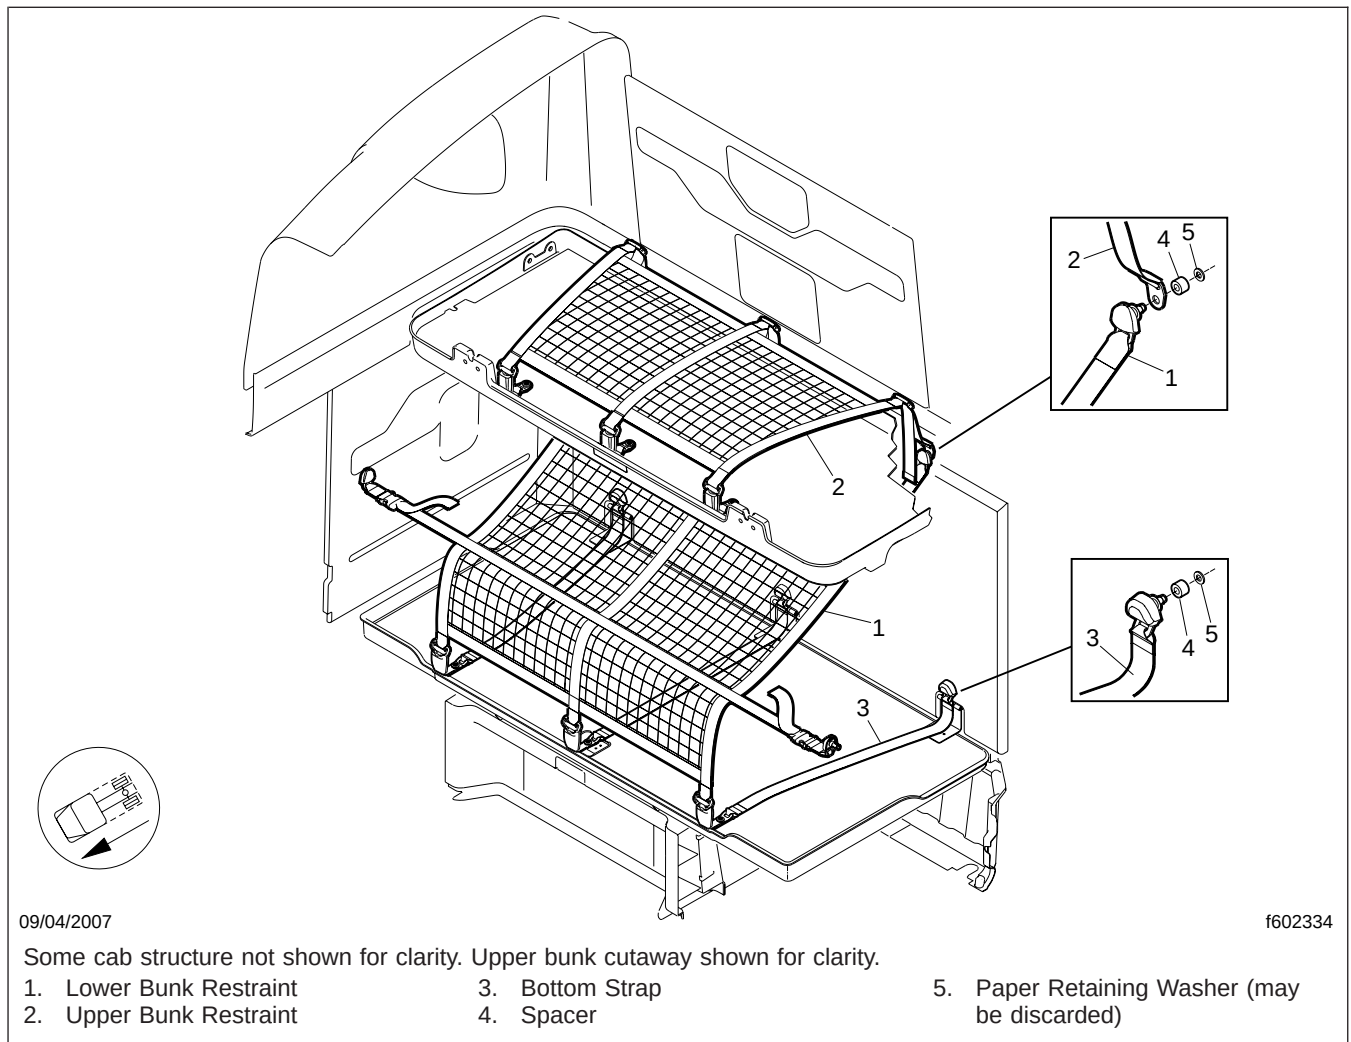

Fig. 1, Bunk Restraint Installation
3. Flip the anchor plate covers open, and remove the capscrews that attach the bunk restraint to the back wall of the cab; see Fig. 1. A paper retaining washer may be present; it is not needed, and does not need to be replaced. Remove and discard the restraint.